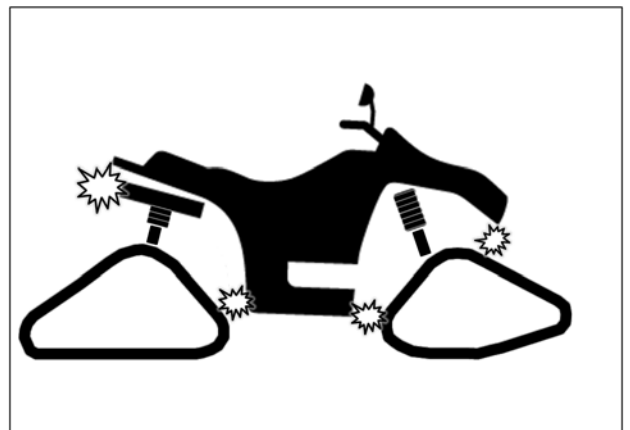

Fig. 21
2. Verify for possible contact between Track System and lower fender corners. See Fig. 21